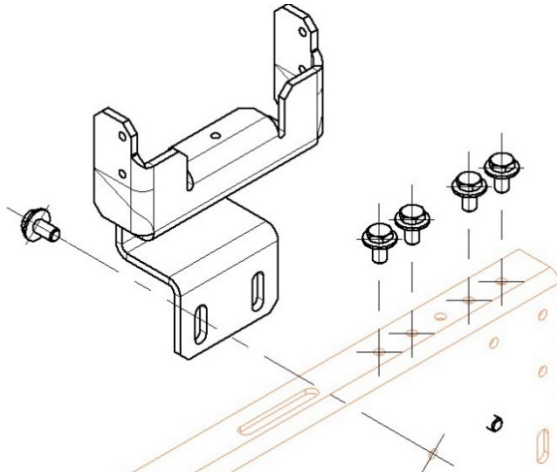

Figure 8 - Mounting the tensioner bracket
Figure 8 shows how to mount the tensioner bracket for both the single speed and two speed applications. Use (4) 5/16-18 screws to mount the tensioner bracket to the top of the header flange and proceed to tighten the bottom (2) 5/16-18 screws to secure the bracket to the back of the header. Tighten the screws at the top of the flange to fully secure the tensioner bracket.